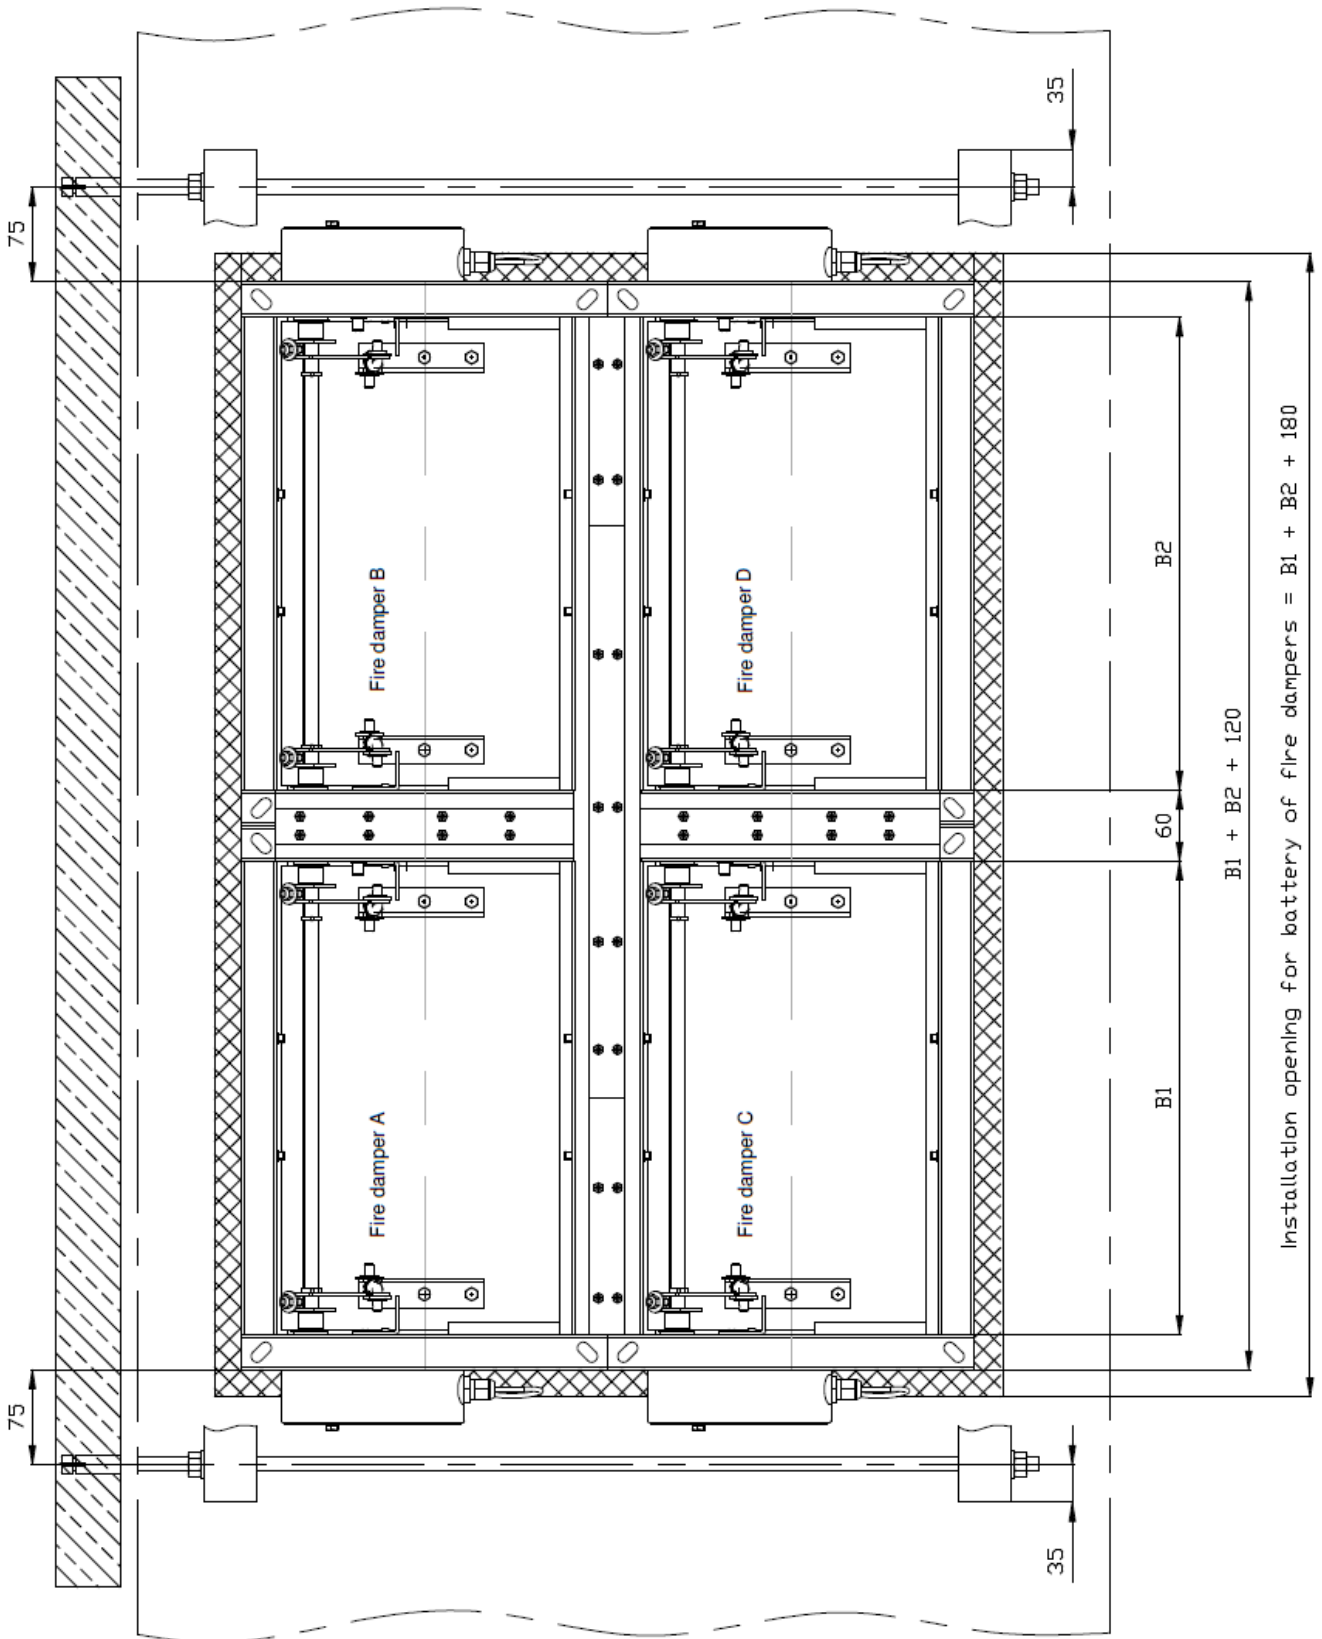
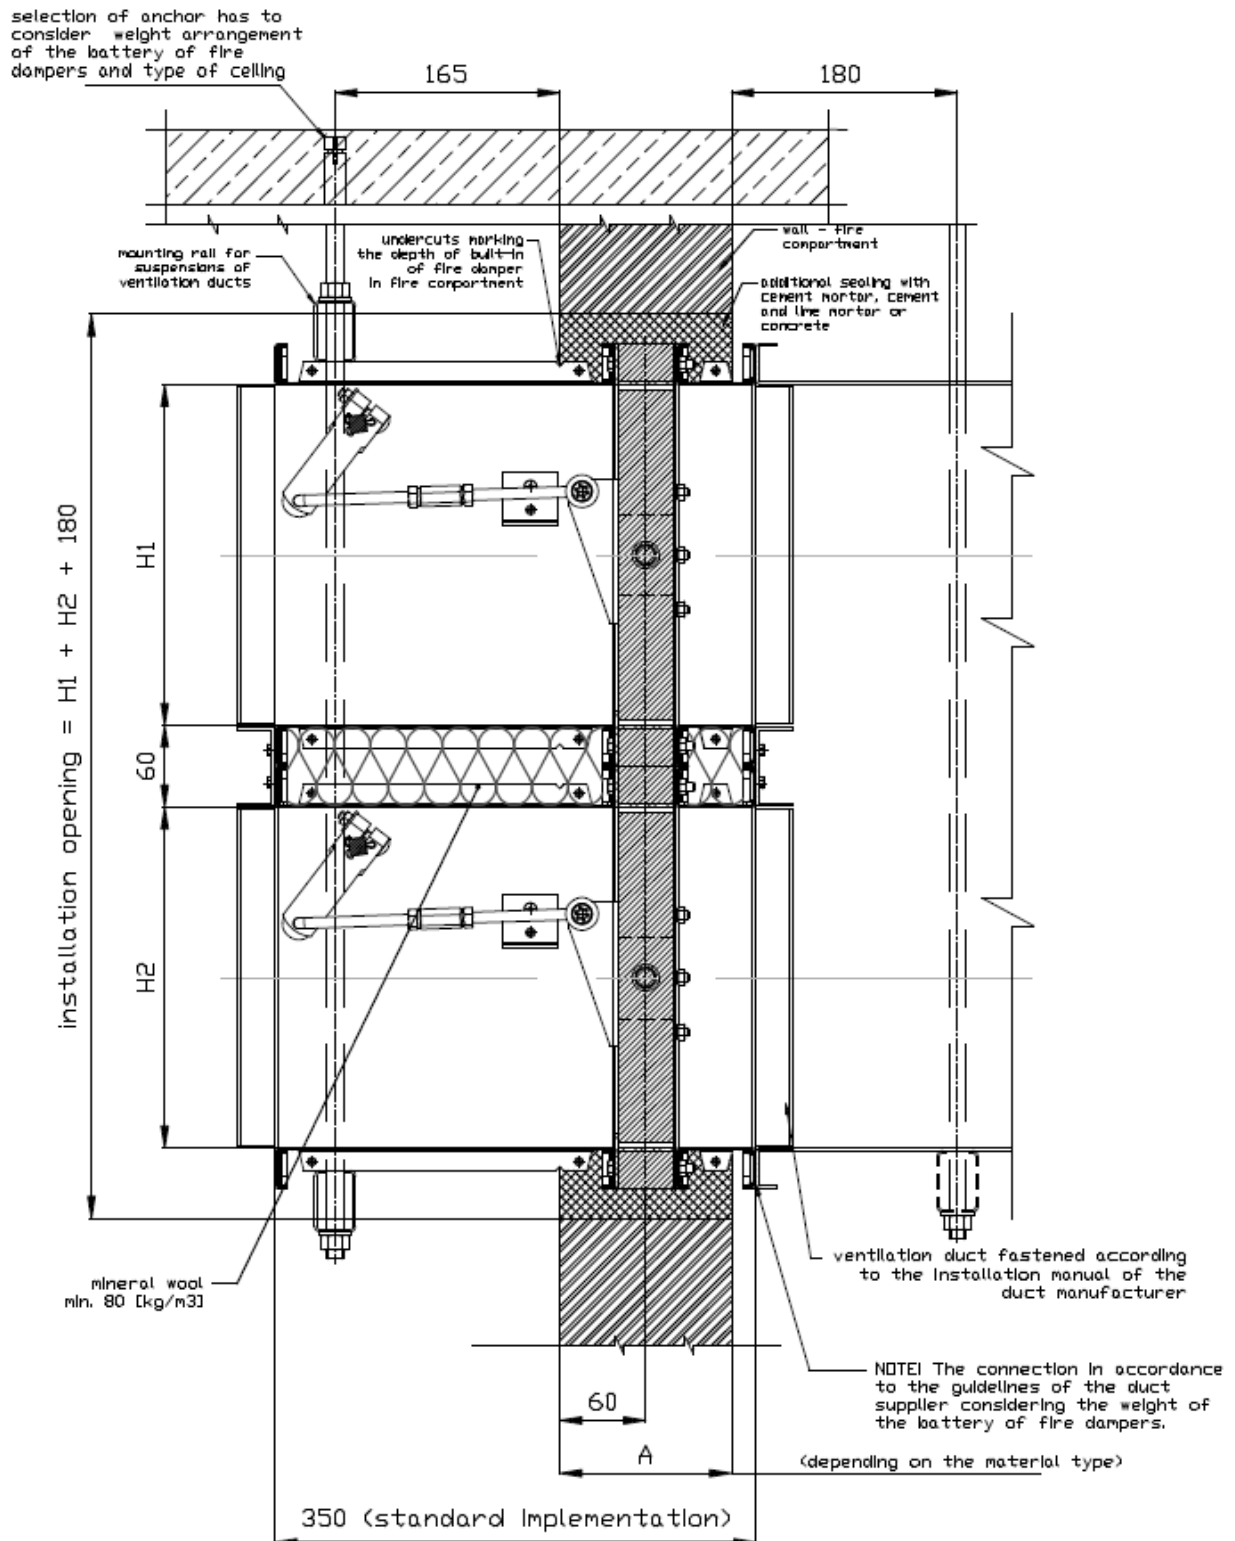

Figure 5.1. Installation of a battery consisting of four fire dampers KWP in rigid compartment – front view.
Figure 5.2. Installation of a battery consisting of four fire dampers KWP in rigid compartment – side view.
### Installation of fire damper KWP batteries in rigid wall compartment (Figure 5.1 to 5.6)
- for battery consisting of four fire dampers:  $(B1+B2+180) \times (H1+H2+180)$ , (Figure 5.1, Figure 5.2)